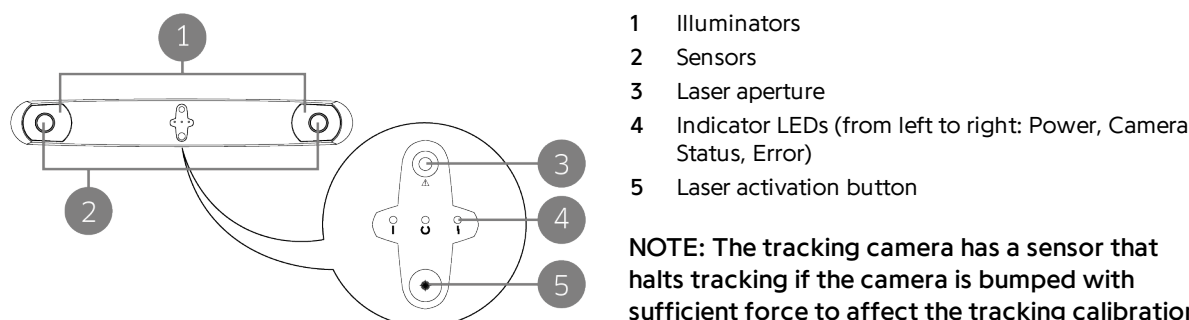

Figure 2 Tracking camera front view
The tracking camera includes a positioning laser that indicates the center of the camera's tracking volume. Use this feature to orient the tracking camera towards the surgical site so all tools and the cranial reference are in the field of view. The laser beam is emitted from an aperture on the front of the tracking camera (item 4 in Figure 2 above).
To use the positioning laser, press and hold the laser activation button on the front of the tracking camera (item 5 in Figure 2 above). The laser remains on only while the button is pressed.